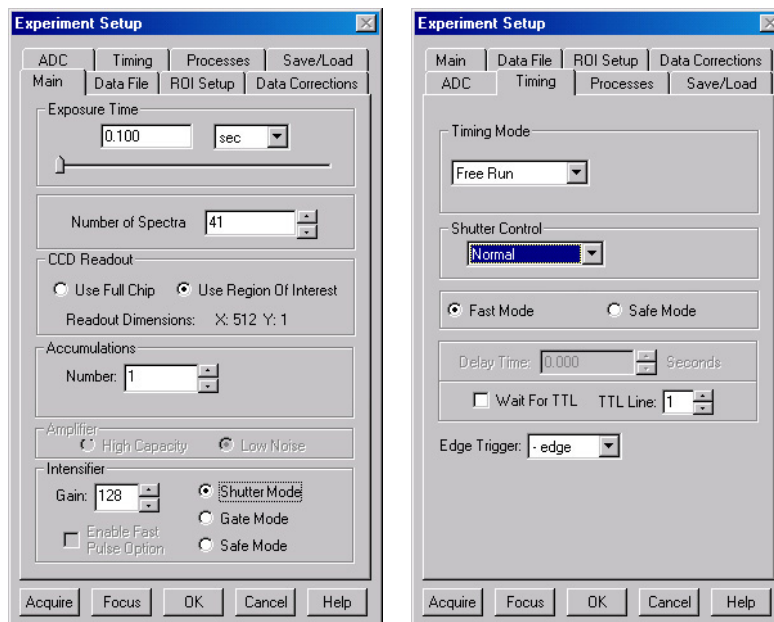
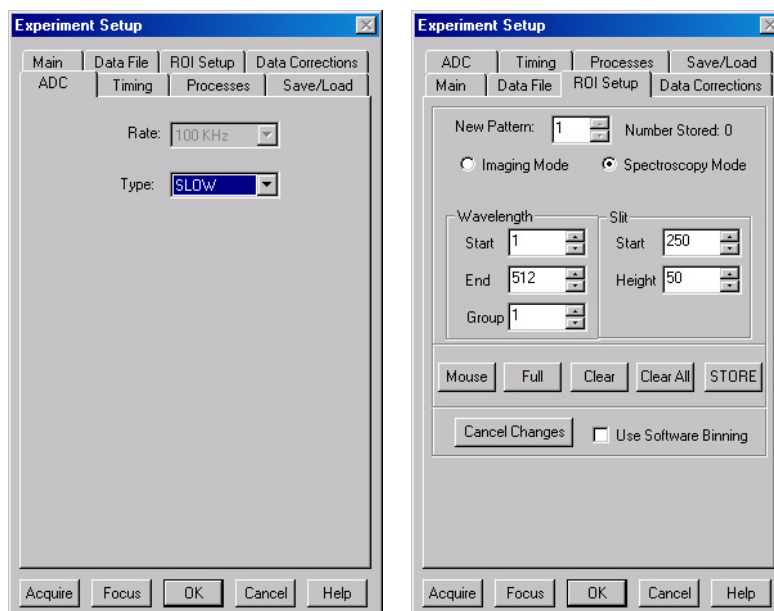

Figure 46. Experiment Setup: Main and Timing tabs
Figure 47. Experiment Setup: ADC and ROI Setup tabs
5. At this point, it is a good practice to make sure that the camera is focused by running it in **Free Run** mode. This requires that you set the experiment parameters on the Experiment Setup tabs (refer to Figure 46 and Figure 47). On the **Experiment Setup|Main** tab, choose **Shutter Mode**, set a value between 0 and 255 for MCP gain, and set the appropriate integration time. On the Timing tab, select **Free Run** and **Fast Mode**. On the **ADC** tab, select the appropriate ADC type. On the **ROI Setup** tab, select the appropriate ROI.